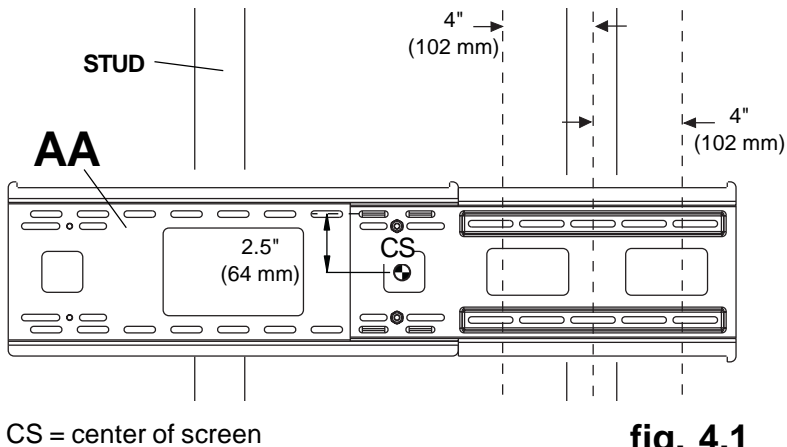
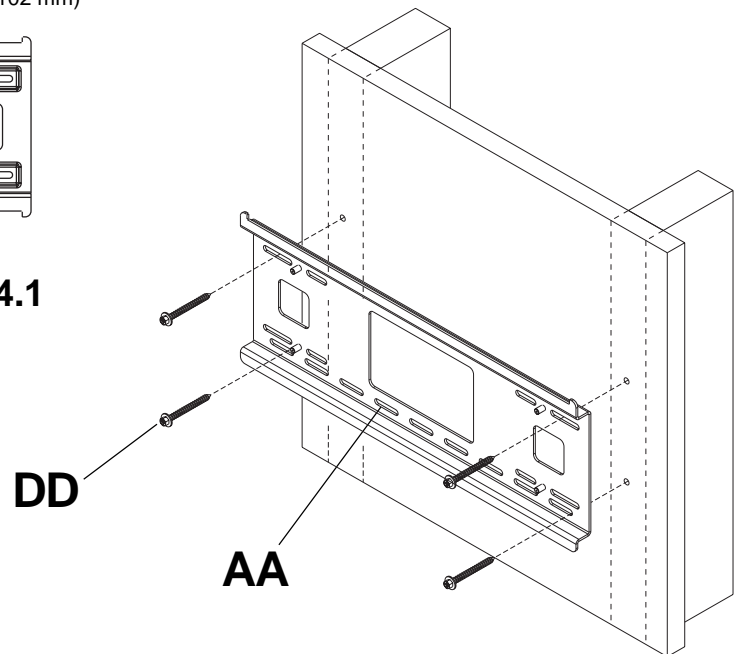

fig. 4.1
fig. 4.2
- 4** Wall plate (**AA**) can be mounted to two studs that are 16" apart. Use a stud finder to locate the edges of the studs. Use of an edge-to-edge stud finder is highly recommended. Based on their edges, draw a vertical line down each stud's center. Place wall plate on wall as a template. The top mounting slots should be 2.5" above the desired screen center as shown in figure 4.1. Level plate, and mark the center of the four mounting holes. Make sure that the mounting holes are on the stud centerlines. Drill four 5/32" (4 mm) dia. holes 2-1/2" (65 mm) deep. Make sure that the wall plate is level, secure it using four #14 x 2.5" wood screws (**DD**) as shown in figure 4.2.
NOTE: Wall plate may be mounted up to 4" (102 mm) off center as shown in figure 4.1.
4 Make sure that wall plate (**AA**) is level, use it as a template to mark four mounting holes. The top mounting hole should be 2.5" above the desired screen center as shown in figure 4.1 on page 8. Drill four 1/4" (6 mm) dia. holes to a minimum depth of 2.5" (64 mm). Insert anchors (**EE**) in holes flush with wall as shown (right). Place wall plate over anchors and secure with #14 x 2.5" screws (**DD**). Level, then tighten all fasteners.